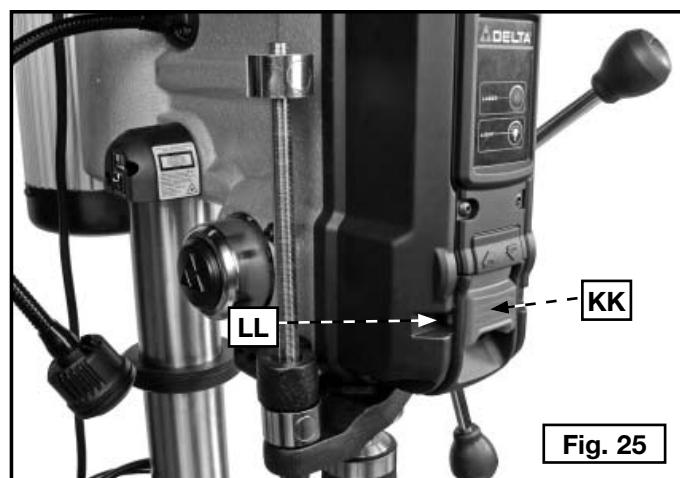

Fig. 25
To turn drill press on, lift switch paddle (KK) Fig. 24 up to the "ON" position. To turn drill press off, push switch paddle (KK) Fig. 25 down to the "OFF" position, as shown.
**IMPORTANT:** When the machine is not in use, the switch should be locked in the "OFF" position to prevent unauthorized use, using a padlock through holes at (LL) Fig. 25. The minimum shackle diameter should be 1/5" (5 mm) and minimum shackle length should be 7/8" (22.2 mm).